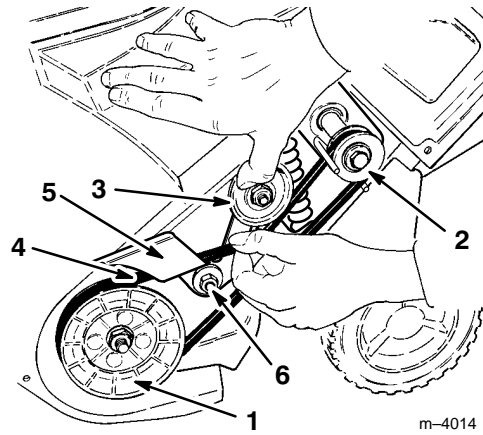

Figure 13
6. Loosen the idler pivot nut (Fig. 13).
7. Remove the drive belt from the rotor pulley (Fig. 13).
8. Push down on the idler pulley to release the brake arm and pull the drive belt from behind the brake arm (Fig. 13).
9. Slide the drive belt off of the drive pulley (Fig. 13).
10. Loop the new drive belt around the drive pulley and behind the brake arm (Fig. 13).
11. While holding the drive belt, slip the belt onto the rotor pulley and rotate the rotor with the other hand until the drive belt is completely on the rotor pulley (Fig. 13).
14. Torque the engine mounting nuts and the idler pivot nut (Fig. 13) to 170 to 200 in-lbs (19.2 to N·m).